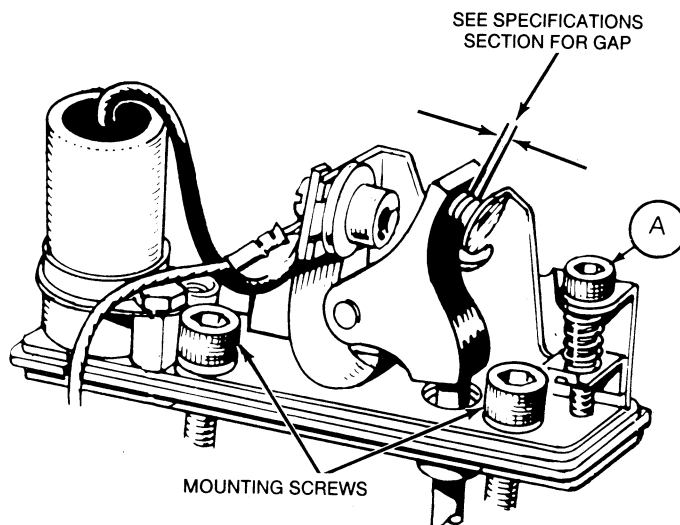

FIGURE 14. SETTING BREAKER POINTS
3. To set the point gap, turn the engine crankshaft with rotation until the maximum breaker point gap is obtained. See Figure 14.